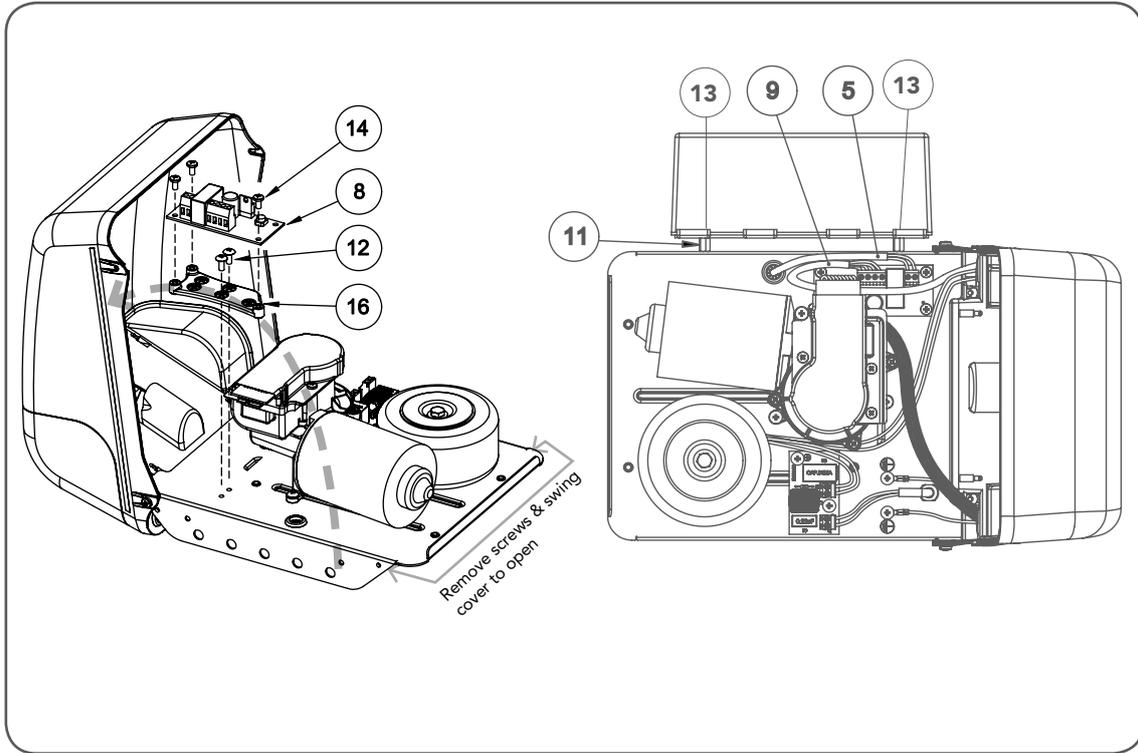

fig 05
- Remove screws and swing open the cover (**Fig 05**).
- Mount the PCB support (16) with two screws (12). Secure the SBY-3 charger board on to PCB support with 3 screws (14).
- Feed the 2-wire battery harness (5) through the grommet on the base plate and connect to SBY-3.
- Mount battery pack and secure with item 6 and 11.